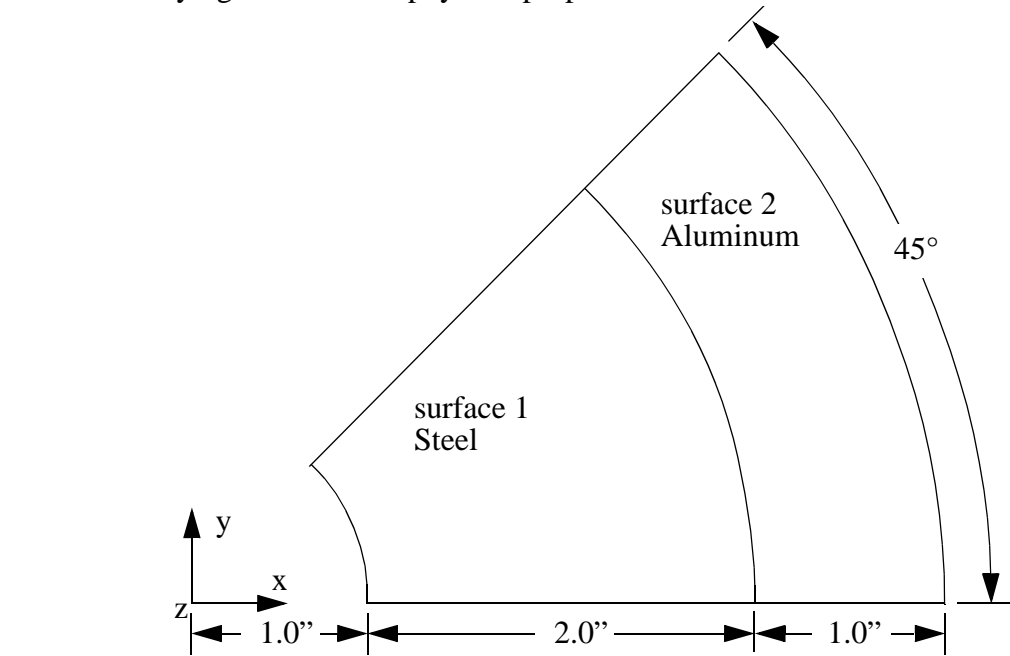

Figure 13-1
- Create the geometry that represents the 45° slice of the circular plate shown in Figure 13-1.
3. Create the geometry that represents the 45° slice of the circular plate shown in Figure 13-1.
Create the 45 degree slice of the circular plate by creating two adjacent surfaces that lie in the global xy-plane. The two surfaces meet along the material boundary. See Figure 13-1 of this exercise for the required dimensions.